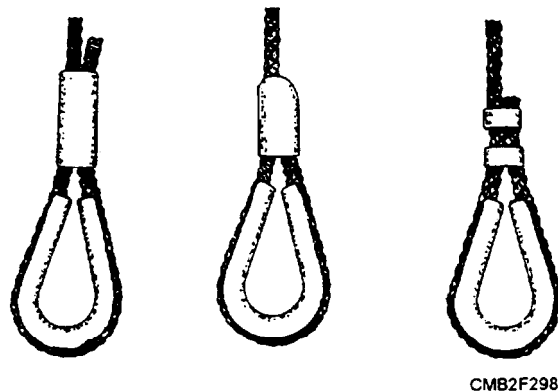

Figure 6-57.—Swaged connections.
**SWAGED CONNECTIONS.**—Swaging makes an efficient and permanent attachment for wire rope, as shown in figure 6-57. A swaged connection is made by compressing a steel sleeve over the rope by using a hydraulic press. When the connection is made properly, it provides 100 percent capacity of the wire rope.